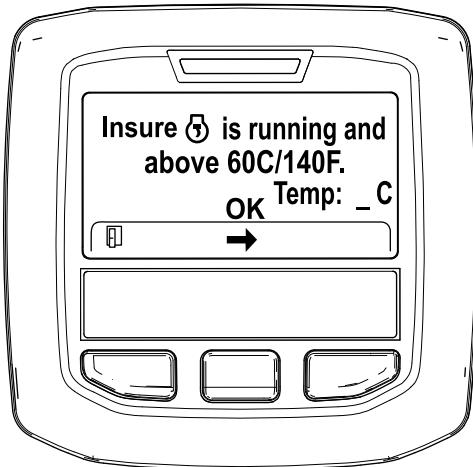

Figure 45
- If the coolant temperature is below 60°C (140°F) the "Insure" icon is running and above 60C/140F" message displays. (Figure 45).